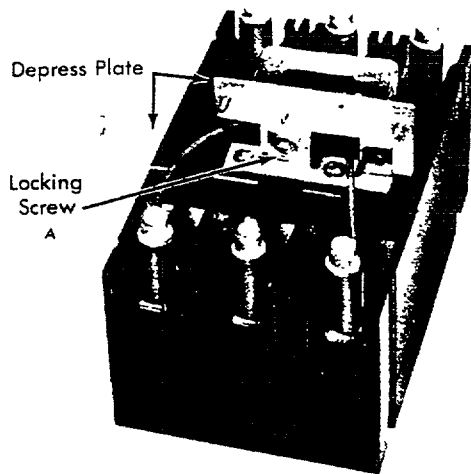

Figure 3
2. Loosen locking screw (A), Figure 3.